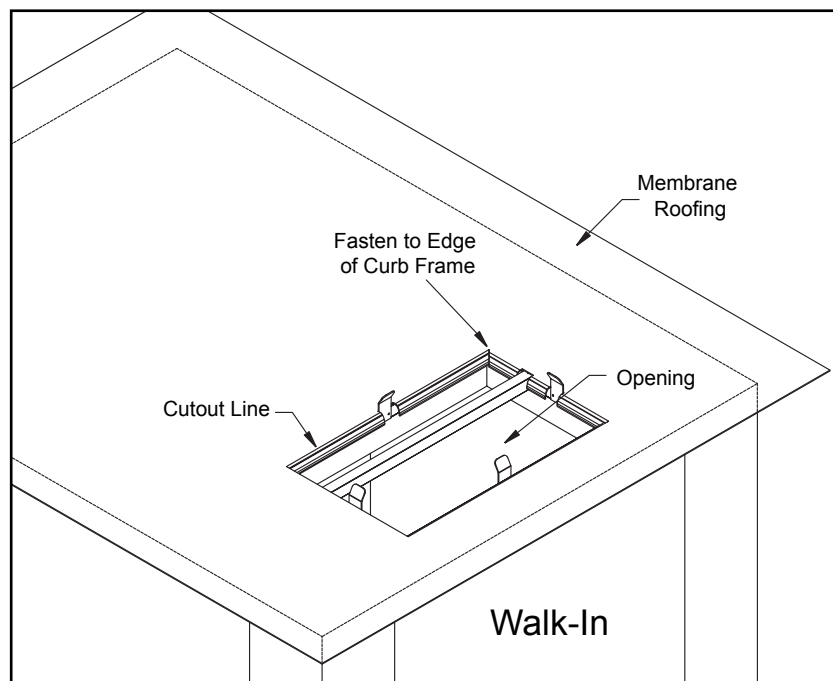

Figure 2
5. Remove the louver assembly and drill four 9/16" diameter holes through the two upright angles of the condensing unit section. Drill completely through the walk-in wall and insert the 1/2" threaded nylon rods. Secure with the flat washers and nuts provided. Refer to Figure 2.
3. Lay the membrane roofing material over the walk-in ceiling sections and curb leaving a six inch overhang on all four sides of the walk-in. Using an utility knife, cut a hole in the membrane roof approximately 1-1/2" in from the edge of the opening. (The resulting hole in the membrane will be smaller than the ceiling opening). Fold the 1-1/2" membrane flaps into the opening, notching the membrane around the locators and divider. Use either sheet metal screws, caulk, glue, etc. to fasten the membrane roofing material to the inside edge of the curb frame. Refer to Figure 2.